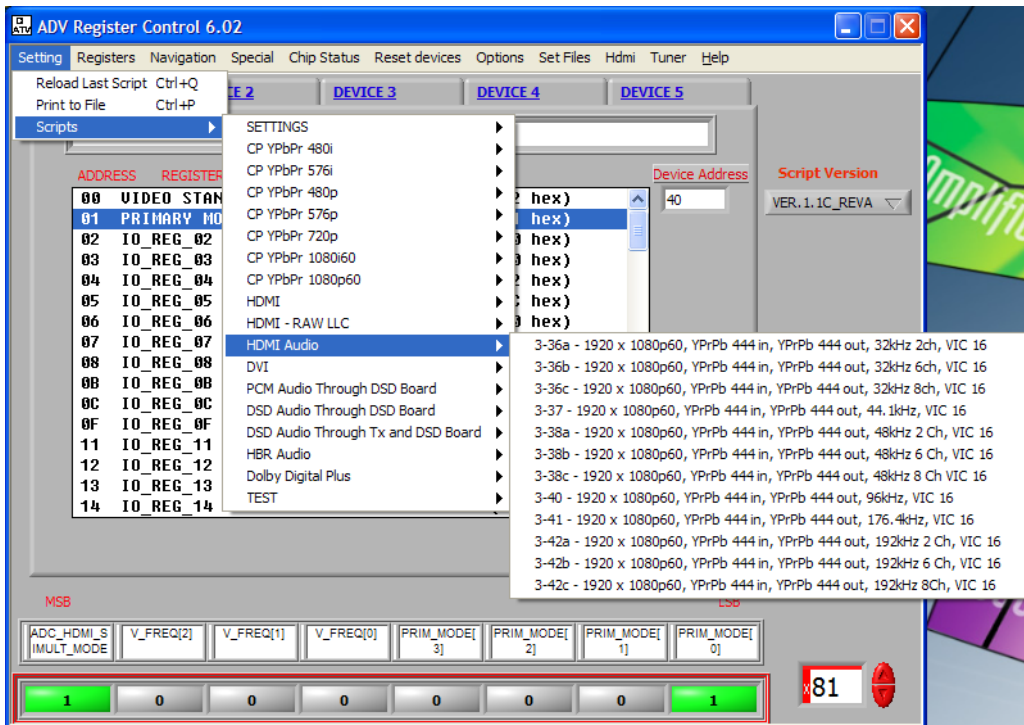

Figure 4 – ADV Register Control Panel
- Finally, the user can run configuration scripts, change individual bit values, check STDI information and read user write logs from the ADV Register Control Panel as per Figure 4.
The evaluation platform is provided with a set of scripts to provide a fast and easy means of configuring the system to process a wide variety of input video formats. Figure 4 illustrates how a specific script file can be accessed and selected from the ADV Register Control Panel (e.g. Setting -> Scripts -> DESIRED CATEGORY -> DESIRED SCRIPT).